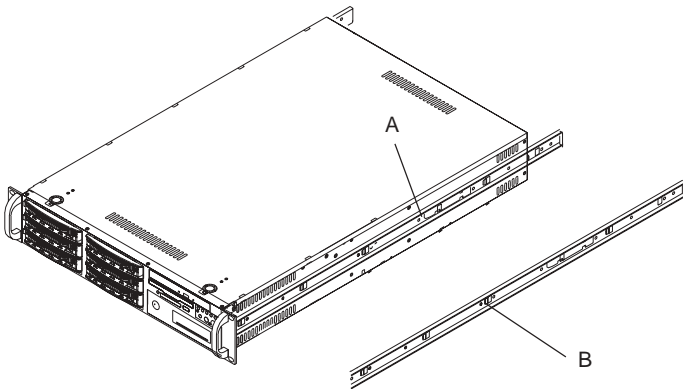

Figure 2-1. Identifying the Sections of the Rack Rails
You should have received two rack rail assemblies with the SuperServer 6022P-i. Each of these assemblies consist of three sections: an inner fixed chassis rail that secures to the 6022P-i (A) and an outer fixed rack rail that secures directly to the rack itself (B). A sliding rail guide sandwiched between the two should remain attached to the fixed rack rail. (See Figure 2-1.) The A and B rails must be detached from each other to install.